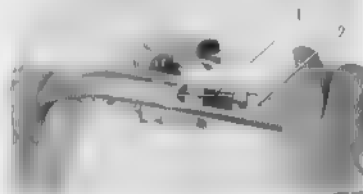

Fig. 4.9 Removing throttle cable
① Lock nut ② Cable adjuster
8. Remove the two 5 mm screws to separate the right handle grip bracket, turn signal switch assembly, throttle grip pipe and then disconnect the throttle cable (4) from the throttle cable hinge (3). (Fig. 4.9)